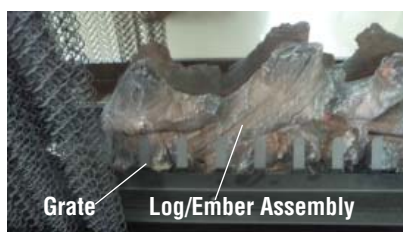

Figure 12
4. Remove the 2 screws on the front of the grate (see **Figure 12**). Also see item #7 on **Page 17**. Remove Grate.